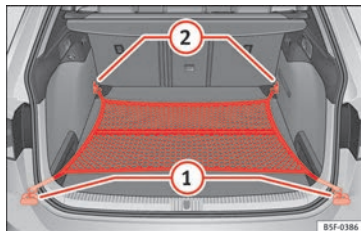

Fig. 177 In the luggage compartment: net bag hooked up at floor level (LEON ST model).
- As applicable, lift the front fastening rings » **Fig. 177 2**.